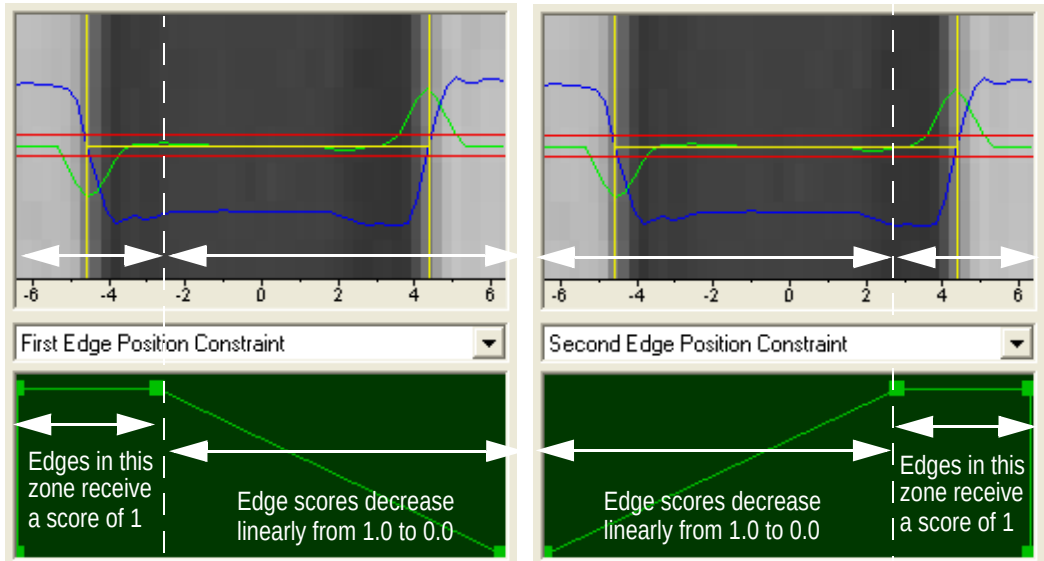

Figure 66 Adjusting Position Constraint Histograms
4. Use the mouse to drag the handles in the histogram window. Set the 1st and the 2nd edge position constraints as illustrated in Figure 66.